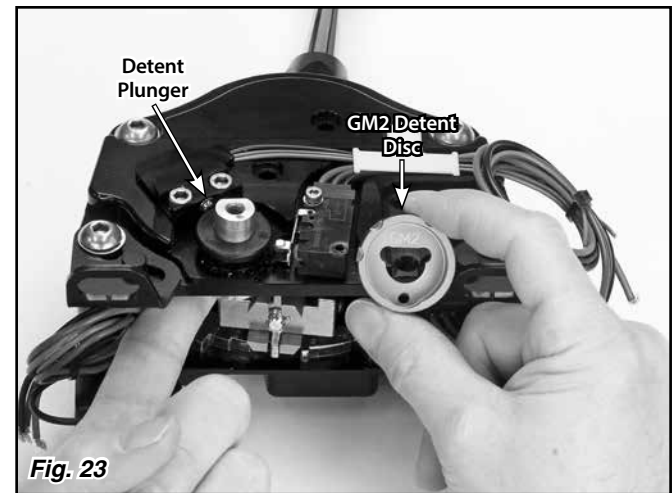
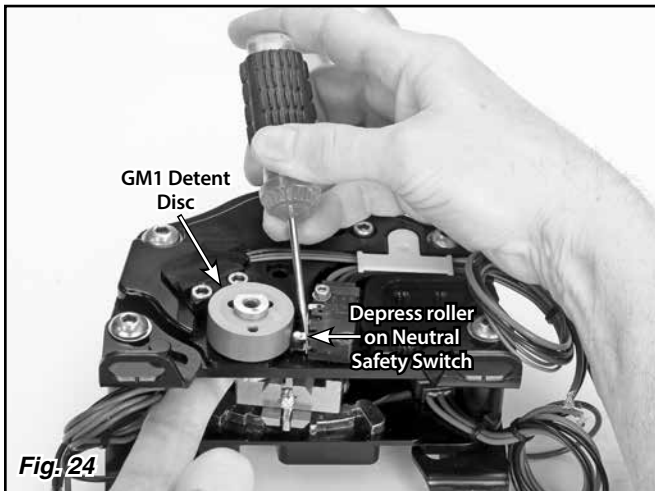

Fig. 23
Fig. 24
Step 9: Remove the Position 2 detent disc (labeled GM2 on the inside). Fig. 23 Replace it with the provided Position 1 detent disc (labeled GM1 on the inside). You will have to depress the roller on the neutral safety switch to get the detent disc in place. Also, make sure the detent plunger is seated. If the detent plunger is protruding, the detent disc can get caught on it and not seat fully. Fig. 24